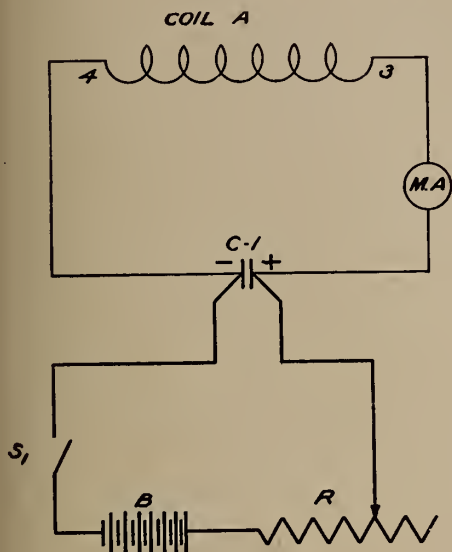

FIGURE 6
If two 90-volt "B" batteries are available, at the time of control cabinet failure, they can be connected in series to give 180 volts. By making wiring connections as shown in Fig. 6, it is possible to operate the projector in a satisfactory manner. "B" represents the batteries, S₁ is a s.p.s.t. switch for disconnecting the batteries from coil A when the projector is idle. R is a variable resistance of from 12,000 to 15,000 ohms. A radio potentiometer or volume control is excellent for this purpose and may be purchased at any radio parts supply store for about fifty cents.
It will be noted in Fig. 6 that the connections of the batteries and resistance are made at condenser C-1 (see Fig. 3) instead of at the terminals of coil A of L-2. This is done in order that the milliammeter on the top of the control cabinet will indicate the current in the coil, thus aiding the projectionist in adjusting the speed of the projector. As in the previous
a. Close switch S₁, Fig. 6, a short time before the changeover is to be made.
If d.c. power is available in the projection room of a voltage greater than 180 volts, this source may be used instead of batteries. The wiring will be identical with that shown in Fig. 6 with the two following exceptions: first, the d.c. arc power lines replace the battery, and second, the resistance of R should be of a value given by equation (4):